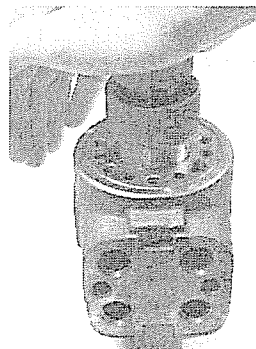

Figure 19
12. Push plunger into sleeve until it bottoms out, rotate 1/4 turn (figure 19).